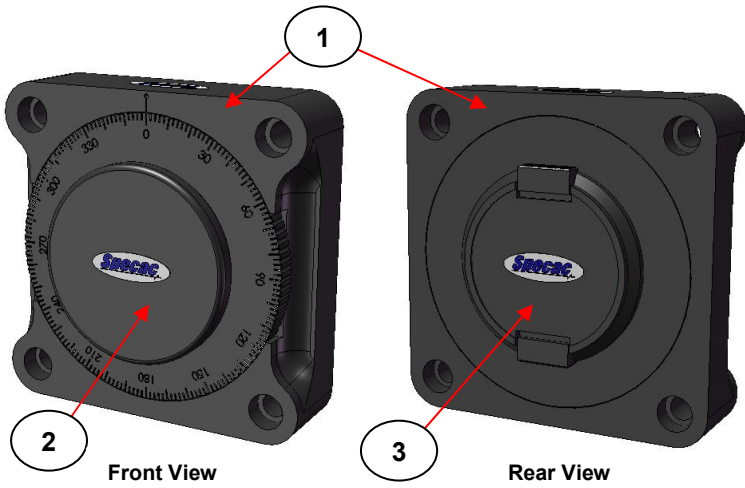

Fig 1. Front and Rear Views of Rotator Mount P/N GS57340
Fig 1. shows front and rear views of the rotator mount P/N GS57340 (1) as an example of the GS57340 Series range. This rotator mount version is suitable for fitting of the 25mm C.A. GS57010 Series polarizers. The rotator mount (1) is supplied with front (2) and rear (3) covers that protect a polarizer when installed and not in use.